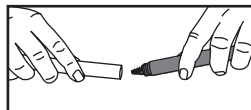

Figure 20.1; Screw on Extension Handle
Attach EXTENSION HANDLE ⑫ onto the end of the E-Wand. Screw tightly into place [Fig. 20.1].